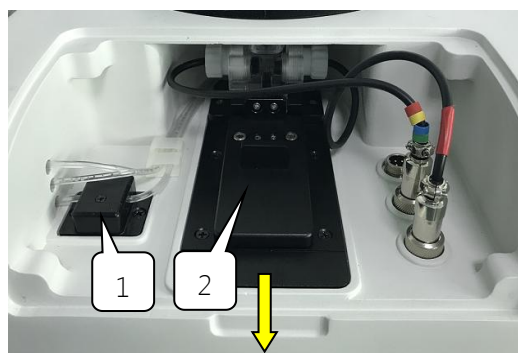
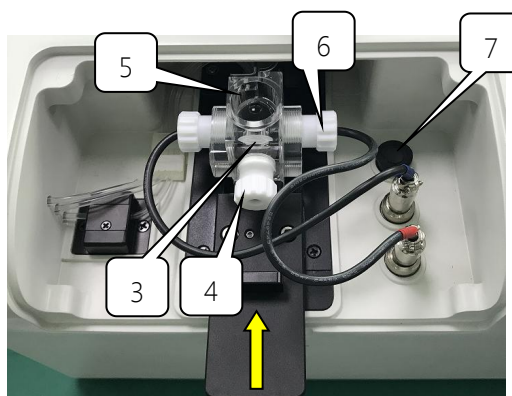

Fig.6
Fig.7
The ex-factory device has been installed with electrode rod as shown in Fig.6, but the electrode enzyme membrane is not installed.
1. Pull the slider in the direction shown by the arrow in Fig.6 to the state as shown in Fig.7;
6. Push the slider inward in the direction of the arrow as shown in Fig.7 until it is in place;